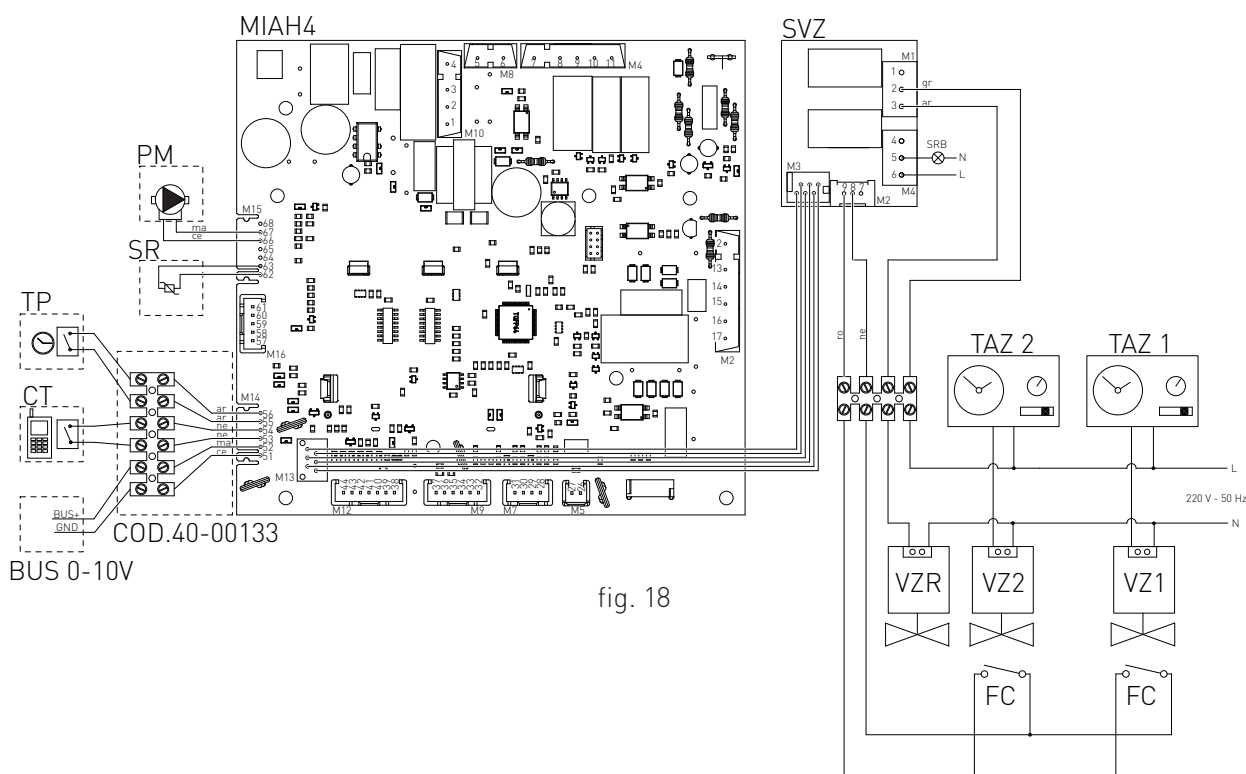

fig. 18
- (PM) MODULATING PUMP
- (TP) DOMESTIC HOT WATER PRE-HEATING DEACTIVATION TIMER
- (CT) TELEPHONE DIALER
- › After removing the crankcase, connect the items below to the electronic board (see fig. 18):